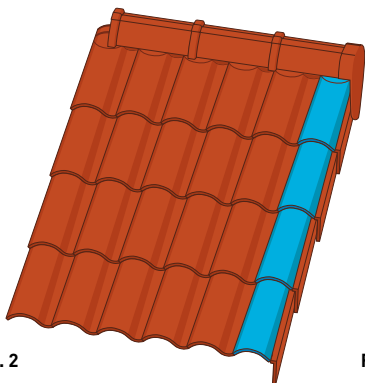

Fig. 2
4. The right section (vertical terminating end) of the roof can be finished by using either a Half (1/2) Tile (**Q17**) (**fig.2**) or a Double Tile (**Q34**) (**fig.3**).